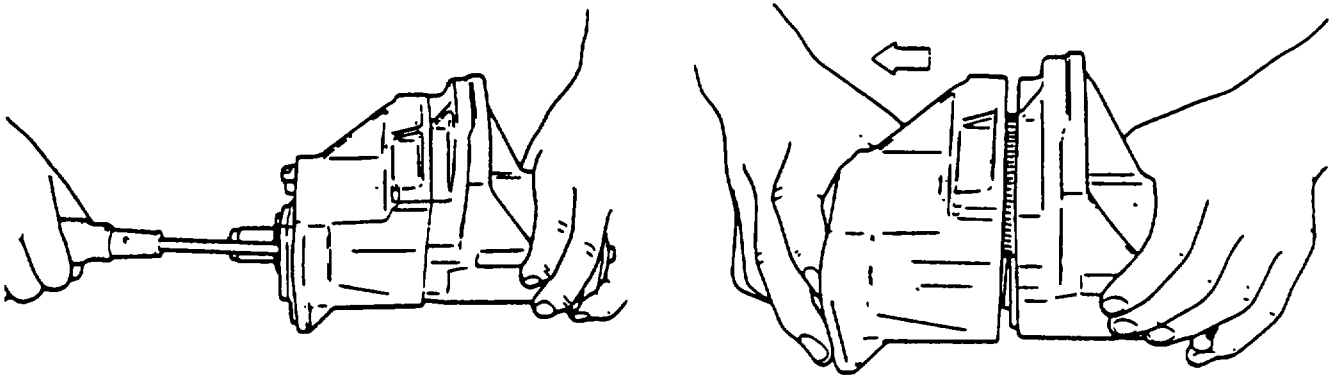

FIGURE 3-21. Removing Housing (Typical)
- g. Remove three screws (15, FIGURE 3-15) from housing (16). Remove housing (16) from magnetic switch assembly (24), refer to FIGURE 3-21.